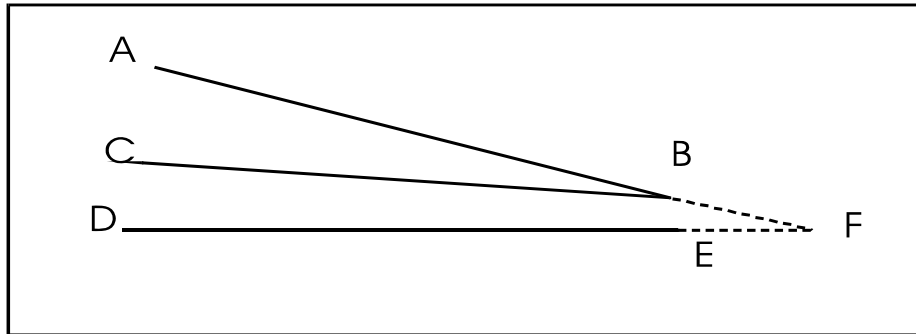

Figure 2.4.2. Linear extension example 2
- b) In *Figure 2.4.2*, lines AB and DE cannot be extended to point F, even though the distance BF is less than the tolerance for AB and EF is less than the tolerance for DE. This is because B is not a free-end.